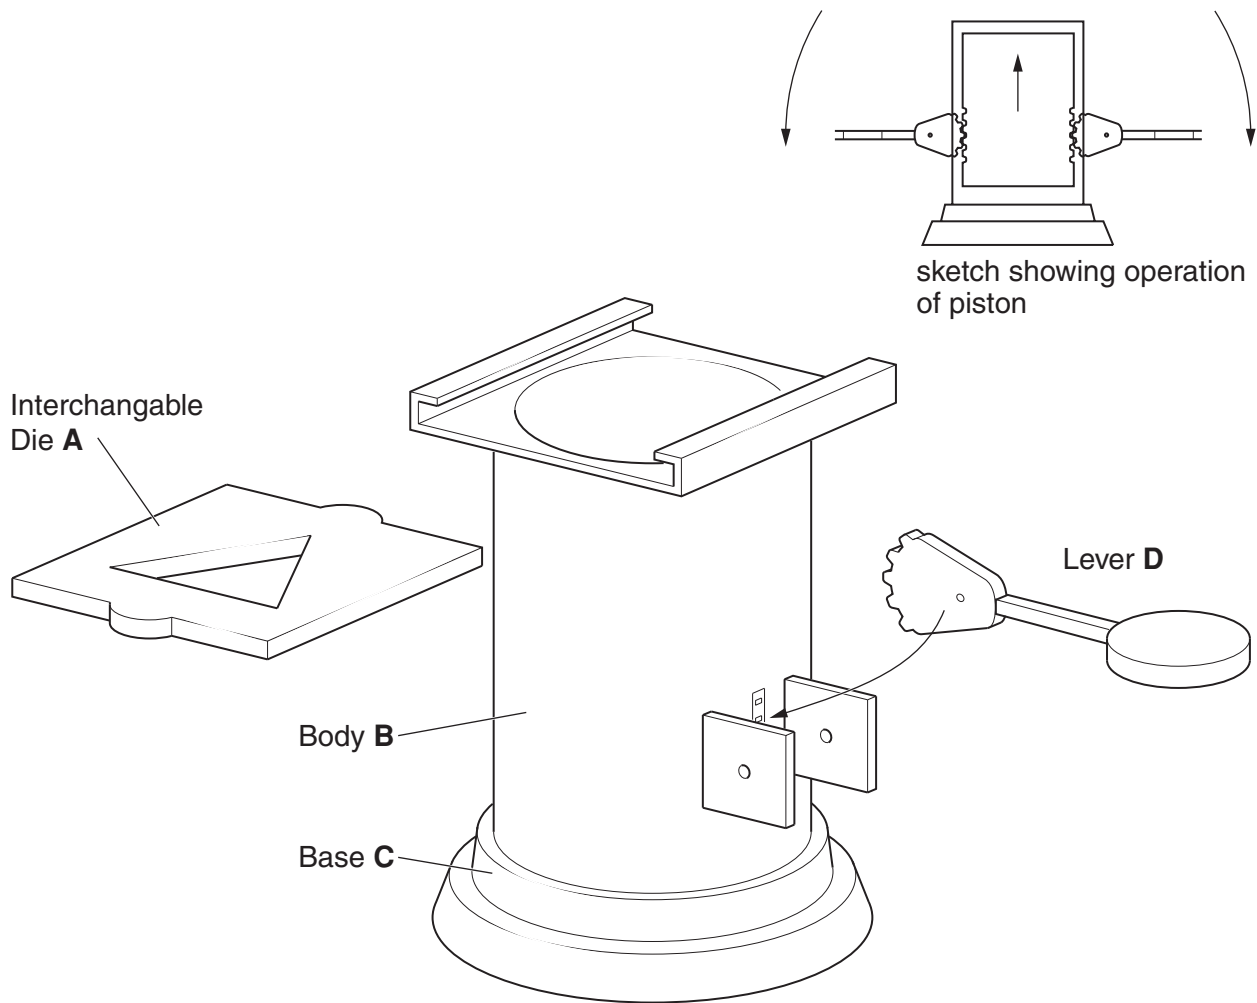

Fig. 8
- 4 Fig. 8 shows views of a prototype device to extrude modelling clay. It will be used by young children.